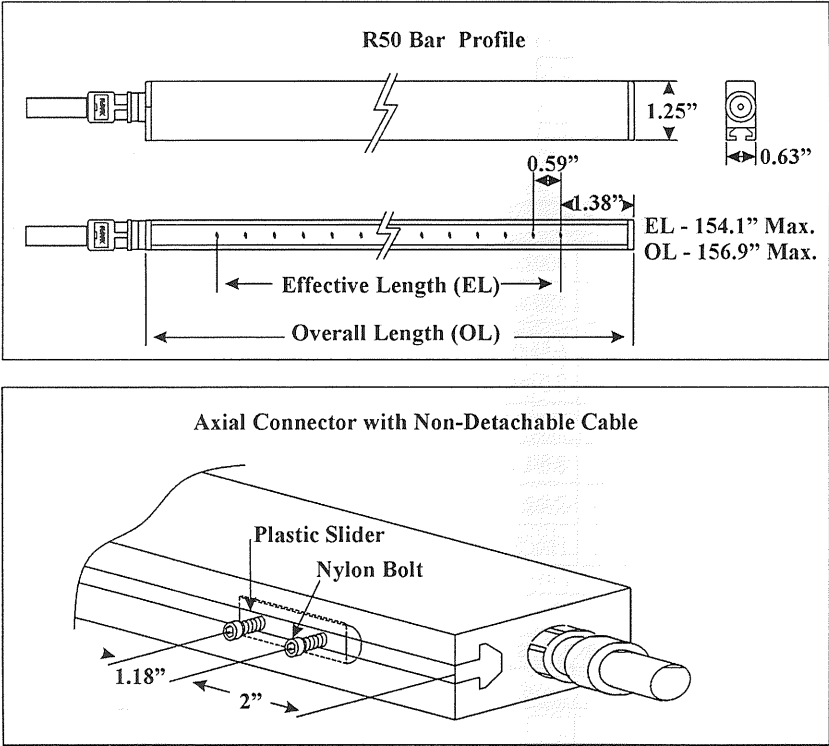

Figure 1
Profile Dimensions (see Figure 1):	5/8"W x 1 1/4"H x Overall Length (OL)